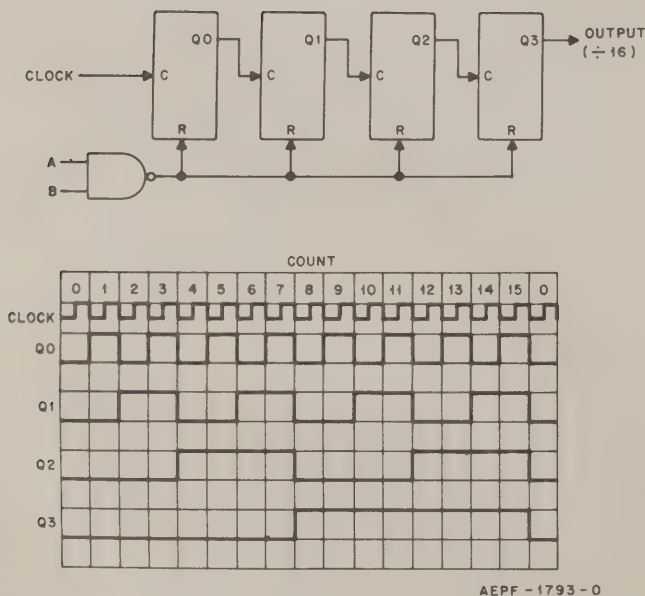

Figure 10. 4-Bit Counter
The 4-bit binary counter consists of four clocked flip-flops connected to provide a divide-by-16 function; i. e., the counter counts in straight binary (ripple) fashion. Connections to the counter are made so that the Q output of each flip-flop drives the clock (C) input of the following flip-flop. Thus, each time a flip-flop is reset, the Q output falls and triggers the following flip-flop into the set state. The logic diagram given in Figure 10 and the accompanying truth table and timing diagram illustrate the straight binary operation of the counter. When the count reaches 15, all flip-flops are reset by the next clock pulse and the count "rolls over" to zero. A common gated reset input (R) is provided to preset the counter to the zero state (count 0) at any time.
The presettable 4-bit binary counter consists of four clocked J-K flip-flops connected to provide a divide-by-16 function; i. e., the counter counts in a straight binary fashion as described for the 4-bit binary counter in Figure 10. However, this counter also contains additional parallel inputs for presetting data into the counter and parallel outputs for full counting flexibility. Parallel information may be preset only while the parallel enable signal at pin 9 is in the logic 0 state.
Four of these counters are used in the 16-bit tone synthesizer of the terminal output unit. Here, a 16-bit preset word is applied to the parallel inputs ($2^0 \dots 2^3$) of each of the four counters to shorten the time required to reach the full count. In operation, a stable oscillator clocks the counter and when the full count is reached, the counter logic produces a change of state in the output and begins the count at the preset value. The output from the overall counter, therefore, is a continuous squarewave at a fraction of the oscillator frequency. The counting sequence truth table and timing diagram for the presettable counter are the same as that given in Figure 10 for the 4-bit binary counter.